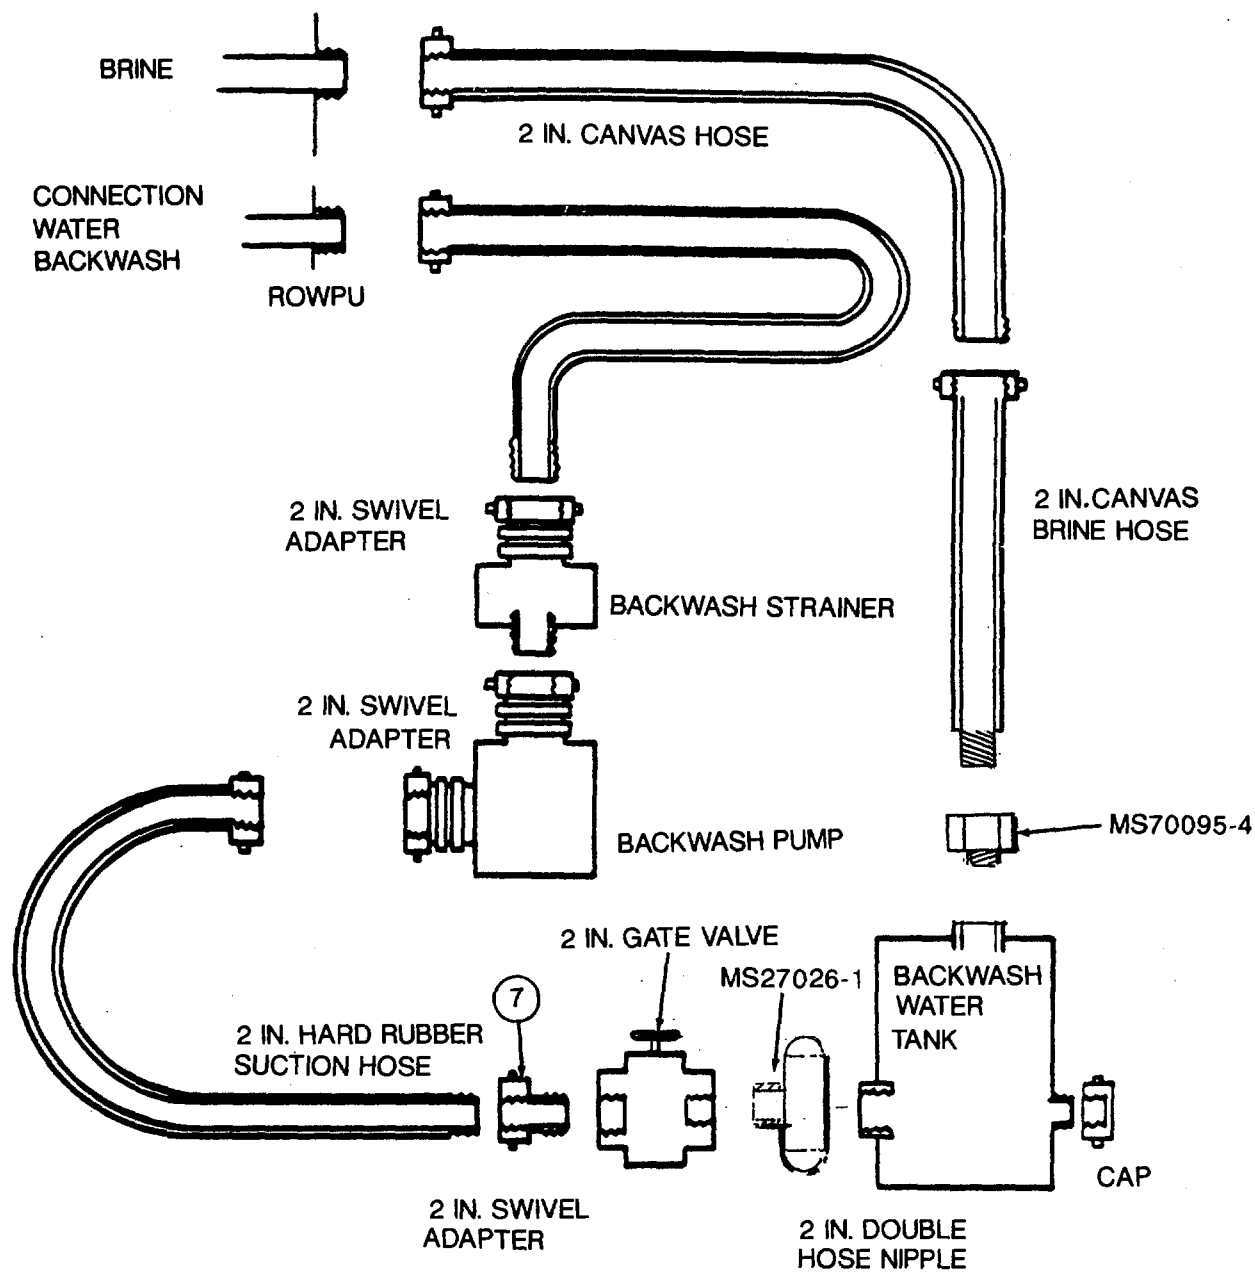

Figure 2-34. Backwash Water System
r. (See fig. 2-34) Connect the backwash water tank hose to suction side of backwash pump. Connect backwash water line to discharge side of backwash pump. Start at the ROWPU and work toward the tank in making connections.